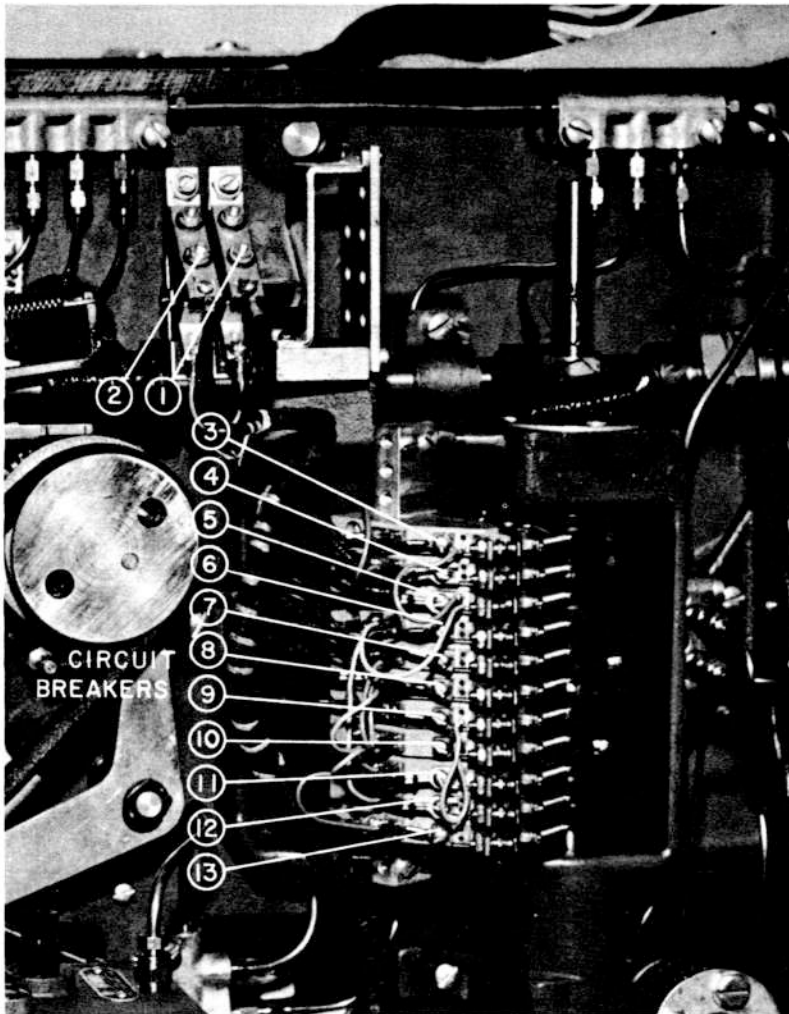

Figure 28. Circuit Breakers
**CIRCUIT BREAKERS (Figure 28)****Adjustments—Unitized C.B.**